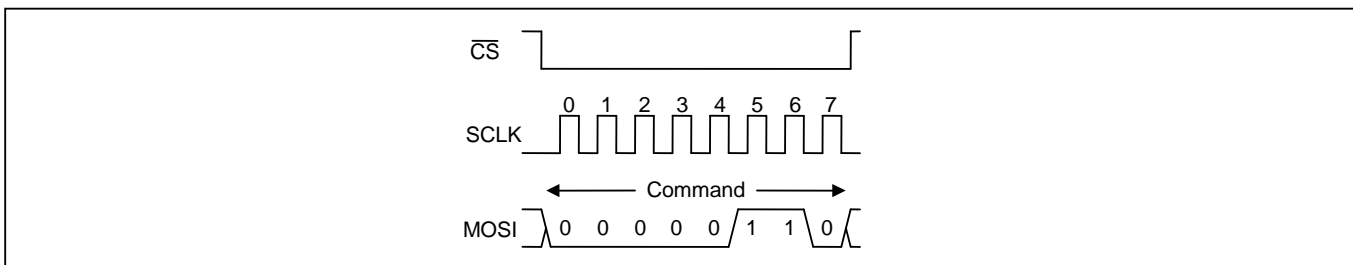
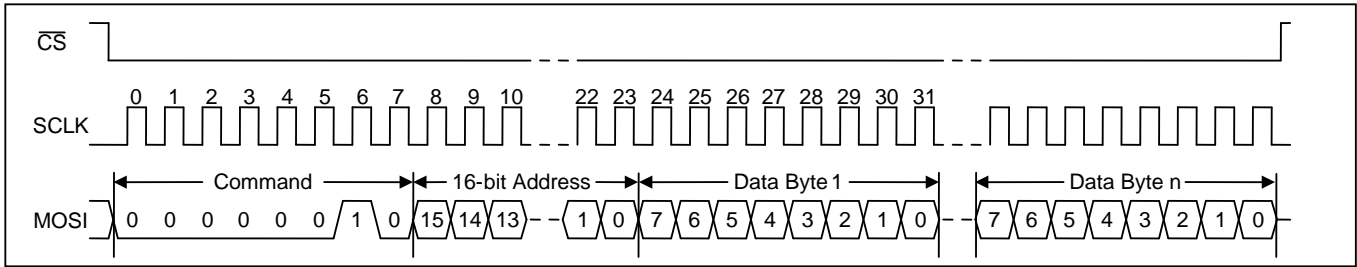

Figure 14 - SPI Write Enable Transaction Functional Timing (ZL30253 Only)
Figure 15 - SPI Write Transaction Functional Timing
**Register Write Transactions.** The device registers are accessible when **EESEL=0**. After driving CSN low, the bus master transmits the write command followed by the 16-bit register address followed by the first data byte to be written. The device receives the first data byte on MOSI, writes it to the specified register, increments its internal address register, and prepares to receive the next data byte. If the master continues to transmit, the device continues to write the data received and increment its address counter. The write transaction is completed when the bus master drives CSN high. See Figure 15.
its page buffer. The device then receives the first data byte on MOSI, writes it to its page buffer, increments its internal address register, and prepares to receive the next data byte. If the master continues to transmit, the device continues to write the data received to its page buffer and continues to increment its address counter. The address counter rolls over at the 32-byte page boundary (i.e. when the five least-significant address bits are 11111). When the bus master drives CSN high, the device transfers the data in the page buffer to the appropriate page in the EEPROM memory. See Figure 14 and Figure 15.